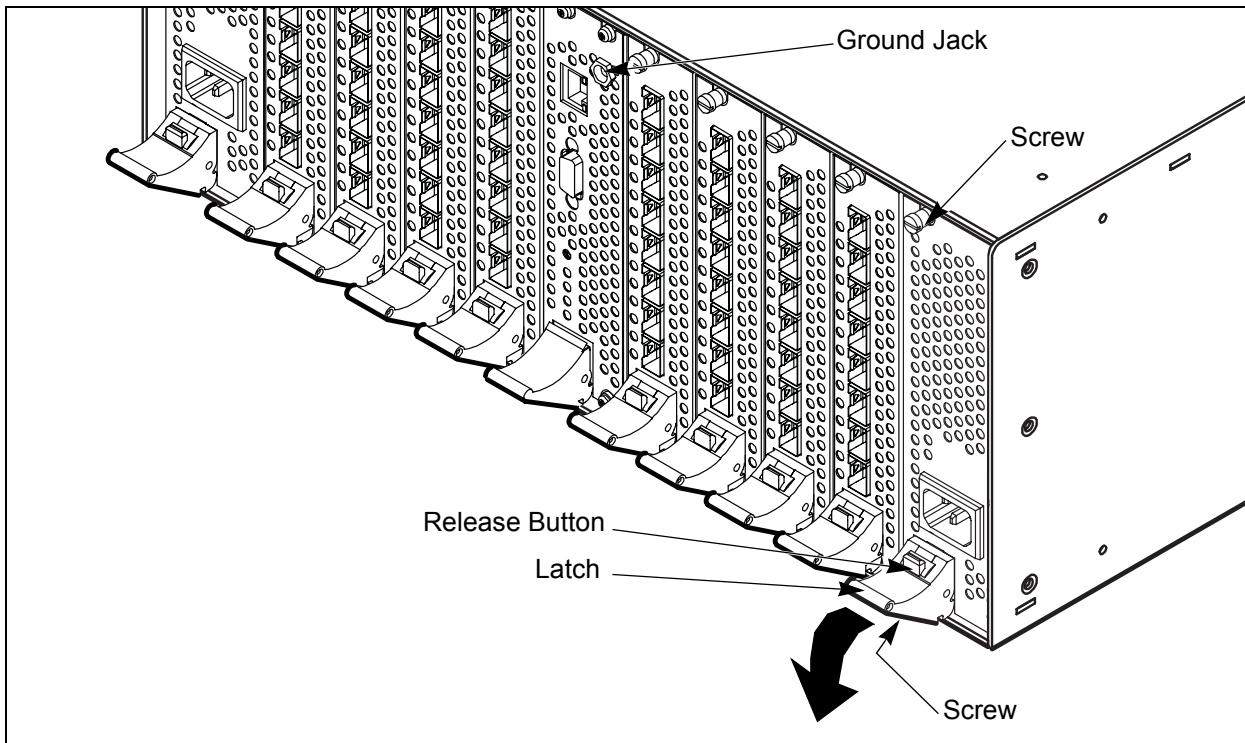

Figure 6-7. Removing a Power Supply Module
2. Connect an ESD wrist strap to the ground jack on the CPU module shown in Figure 6-7 or some other ground point on the chassis.
3. Using a flat-blade screw driver, loosen the captive screws at the top and bottom of the module faceplate as shown in Figure 6-7. The bottom screw is under the latch.